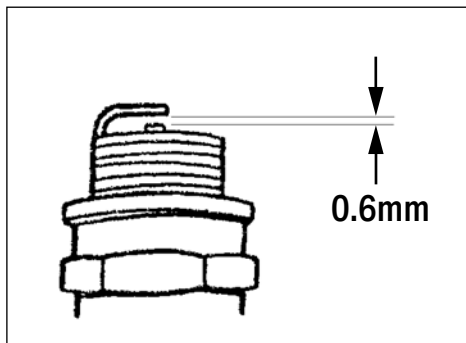

Fig. 31
8.8 Spark Plug (Fig.30 – Fig.31)